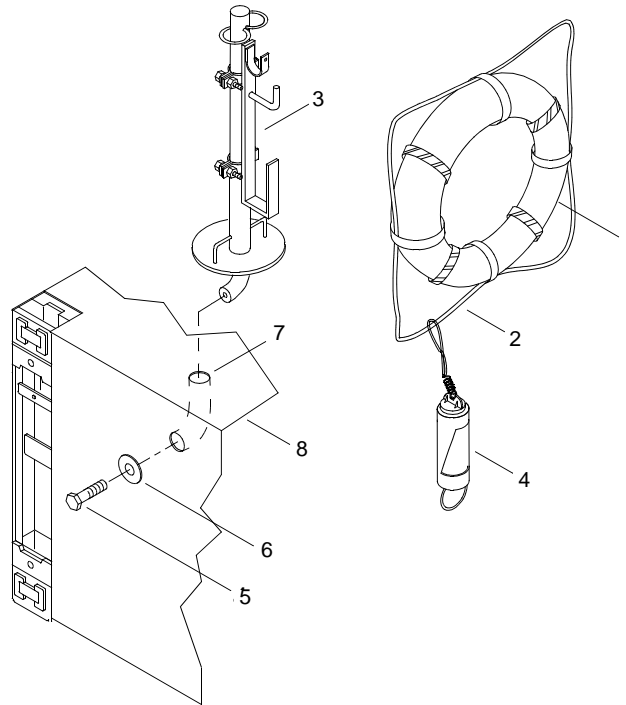

Figure 8. Life Ring Removal
1. Remove life ring (figure 8, item 1) and rope (figure 8, item 2) from life ring stanchion (figure 8, item 3).
2. Remove strobe light (figure 8, item 4) from rope (figure 8, item 2).
3. Remove bolt (figure 8, item 5) and keeper plate (figure 8, item 6) from threaded portion of life ring stanchion (figure 8, item 3).
4. Remove life ring stanchion (figure 8, item 3) from turn tube (figure 8, item 7) on module (figure 8, item 8).
5. Install bolt (figure 8, item 5) and keeper plate (figure 8, item 6) in life ring stanchion (figure 8, item 3) to prevent loss.